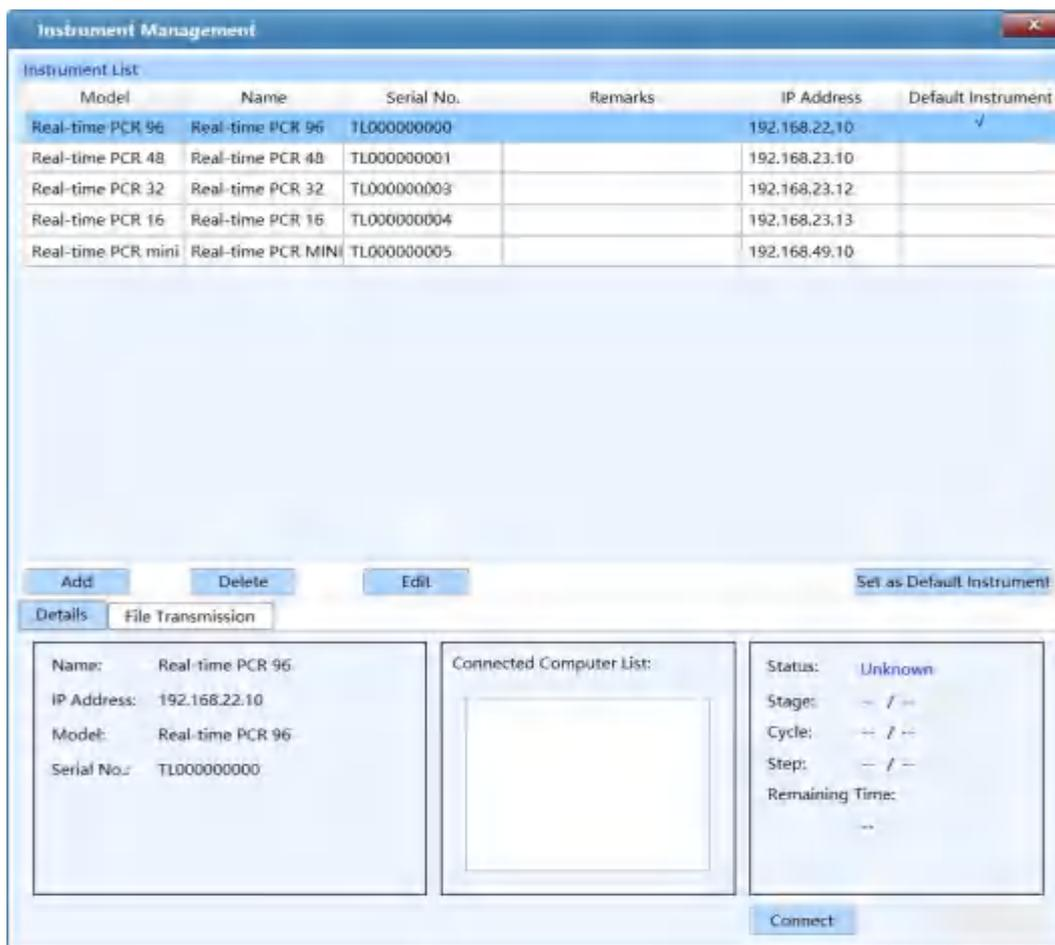

Figure D-2.2 Tool submenu - Instrument Management interface
1. **Instrument Management:** Click **Instrument Management** option in **Tool** submenu and the application software will automatically pop up the instrument management interface, which consists of these parts: **Instrument List, Details** tab and **File Transmission** tab, as shown in figure D-2.2. User can manage all instruments within the LAN on this interface.